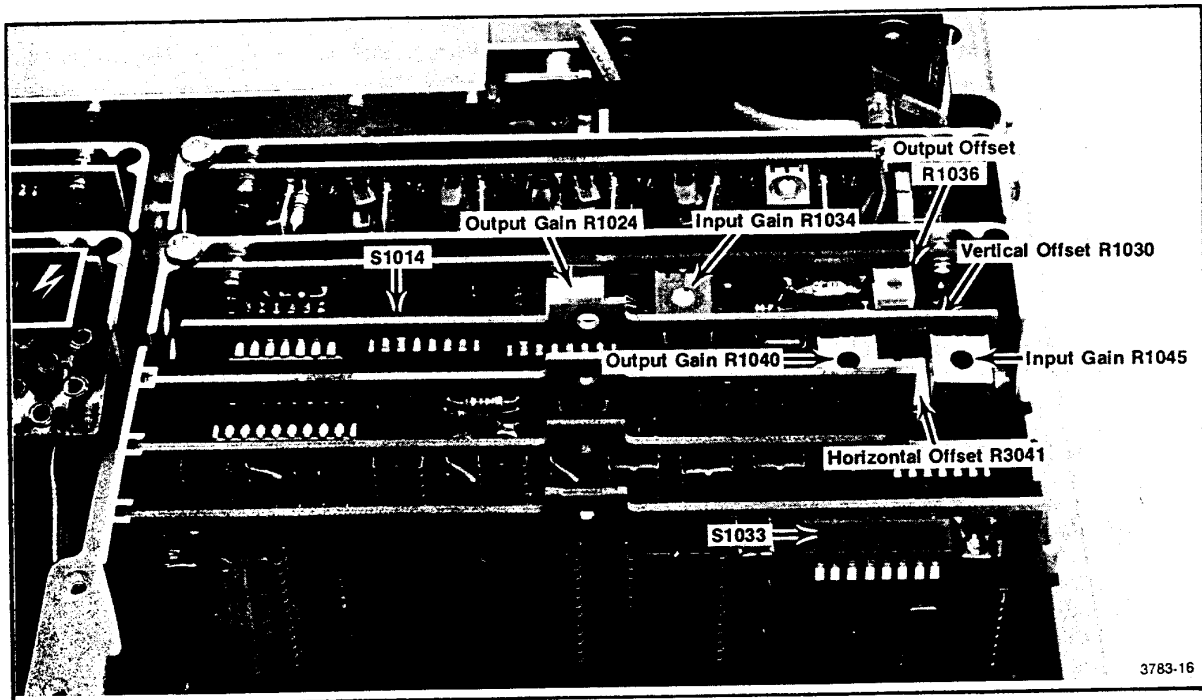

Fig. 3-47. Digital Storage adjustment locations (SN B043114 & below).
1) adjust Horizontal Offset, R3041 (Fig. 3-47), so the left edge of the cursor is at the left edge of the crt (about 0.25 division over-span from the left graticule line);
- 2) adjust Output Gain, R1040 (Fig. 3-47), so the right edge of the cursor is at the right edge of the crt;
- 3) alternately switch the VIEW A (Digital Storage) on and off while adjusting Input Gain, R1045 (Fig. 3-47), so the storage signal at the right edge tracks with the non-store signal.
- 1) output Gain R1024 and Output Offset R1036 (Fig. 3-47) are adjusted at the factory in the 492P only (the alternate procedure follows). These adjustments should not be changed; however, if they are disturbed, center these adjustments and center Input Gain R1034 before proceeding;
- 3) using a signal near the bottom of the display, adjust Vertical Offset R1030 (Fig. 3-47), so the stored display is the same amplitude as the non-store signal;
- 5) adjust Input Gain R1034 (Fig. 3-47), so the stored display of the high amplitude signal is the same as the non-store display;
Adjust the following (Fig. 3-47) for SN B043114 and below to match the step waveform to the graticule: